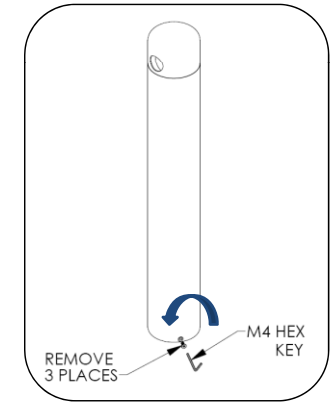

Fig. 2 – Remove base plate
2. Remove base plate from unit, Fig. 2. Retain screws.